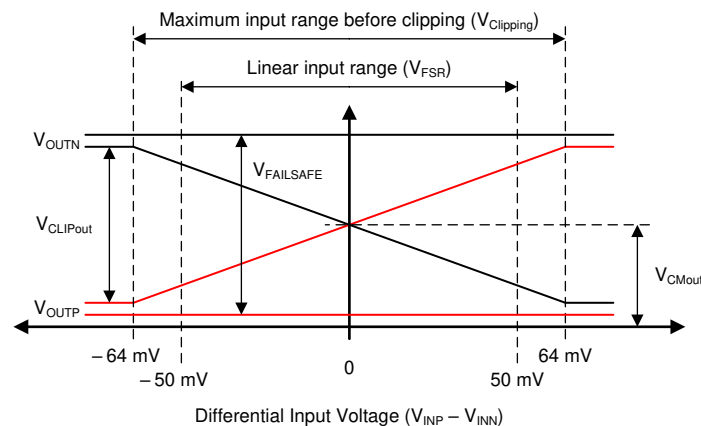

Figure 7-2. Output Behavior of the AMC3302
The AMC3302 offers a differential analog output comprised of the OUTP and OUTN pins. For differential input voltages ($V_{INP} - V_{INN}$) in the range from -50 mV to 50 mV, the device provides a linear response with a nominal gain of 41. For example, for a differential input voltage of 50 mV, the differential output voltage ($V_{OUTP} - V_{OUTN}$) is 2.05 V. At zero input (INP shorted to INN), both pins output the same common-mode output voltage V_{CMout} , as specified in the Electrical Characteristics table. For absolute differential input voltages greater than 50 mV but less than 64 mV, the differential output voltage continues to increase in magnitude but with reduced linearity performance. The outputs saturate at a differential output voltage of $V_{CLIPout}$, as shown in Figure 7-2, if the differential input voltage exceeds the $V_{Clipping}$ value.
The AMC3302 provides a failsafe output that simplifies diagnostics on system level. Figure 7-2 shows the failsafe mode, in which the AMC3302 outputs a negative differential output voltage that does not occur under normal operating conditions. The failsafe output is active in two cases:
- The low-side does not receive data from the high-side (for example, because of a loss of power on the high side). In this case, the amplifier outputs are driven to the V_{FAILSAFE} value, see Figure 7-2.
- The high-side DC/DC output voltage (DCDC_OUT) or the high-side LDO output voltage (HLDO_OUT) drop below their respective undervoltage detection thresholds (brown-out). In this case, the low-side may still receive data from the high-side but the data may not be valid. The amplifier outputs are driven to V_{FAILSAFE} value, see Figure 7-2.